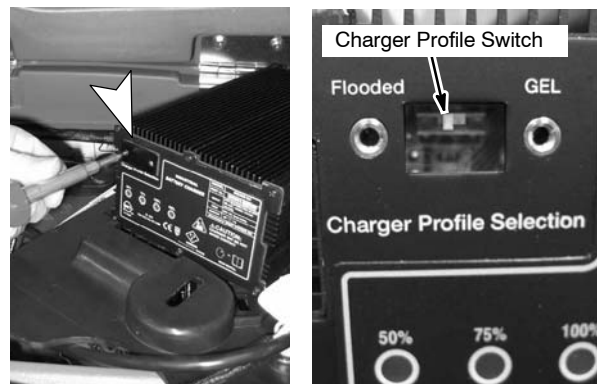

FIG. 33
2. Unplug the charger cord. Remove the “Charger Profile Selection” panel and position the switch towards the proper setting: “GEL” or “Flooded” (Figure 33).